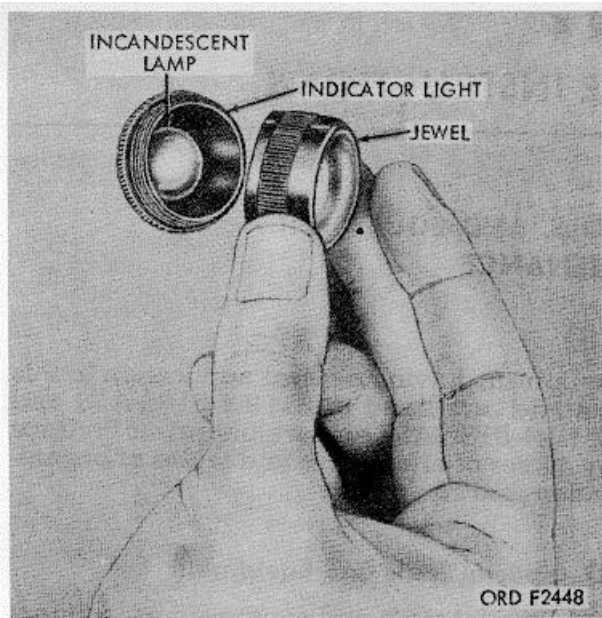

Figure 17. Removing or installing jewel in target indicator light.
- (b) Unscrew jewel lens from body of indicator light and remove (fig 17).